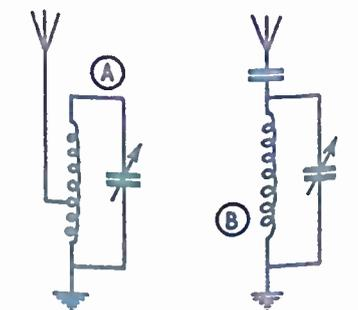

Fig. 3—Aerial coupling arrangements
One such method is shown at (A) in Fig. 3. The coil and tuning condenser remain exactly as described, but the aerial is now taken to a tapping on the coil. The nearer this tapping is to the earthed end of the coil, the sharper will tuning become. However, moving the tapping towards earth also reduces volume, so that a compromise is necessary. A tapping about 1/3rd from the earthed end of the coil is usually satisfactory — that is, 30 turns from earth, with the 90 turn coil, and so on. Or a number of tappings can be made, and the best one (which depends upon the aerial, and reception conditions) can then be found by trial.